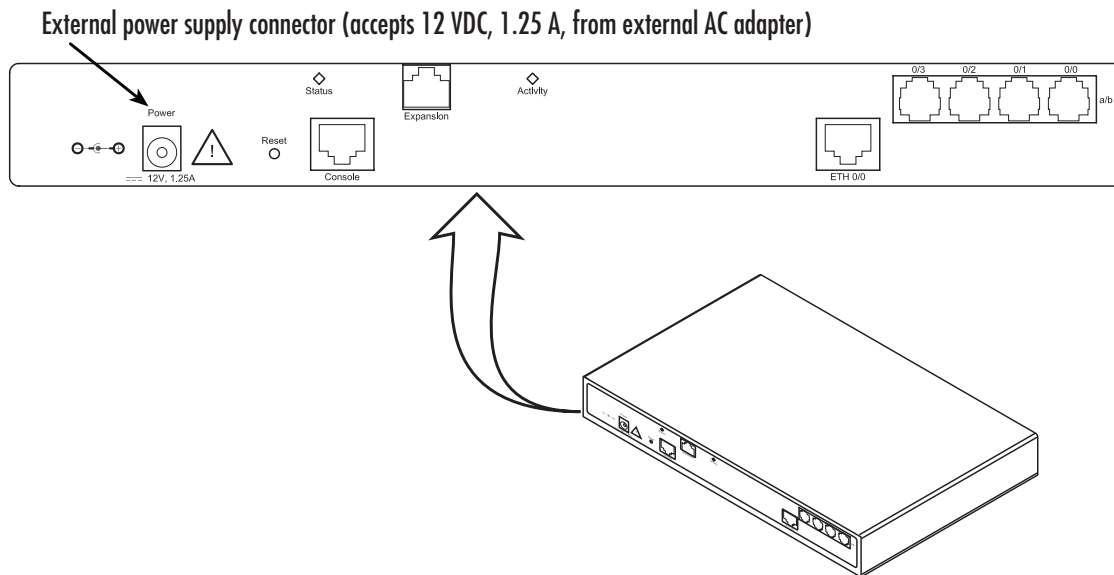

Figure 3. SmartNode 4834 power input connectors
- *EUI* stands for external universal input power supply (see Figure 3)